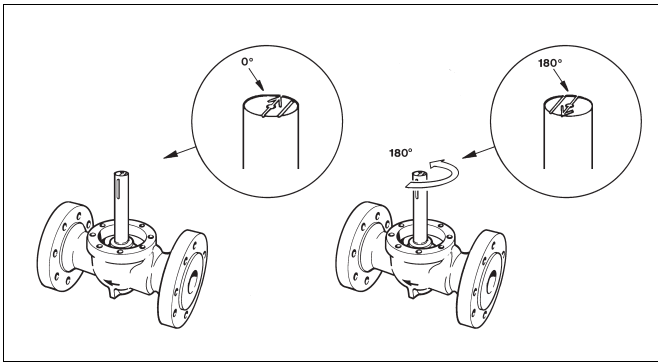

Fig. 11 Turning the ball
- ❑ Turn the valve ball 180 degrees from the CLOSED position, see Fig. 11.